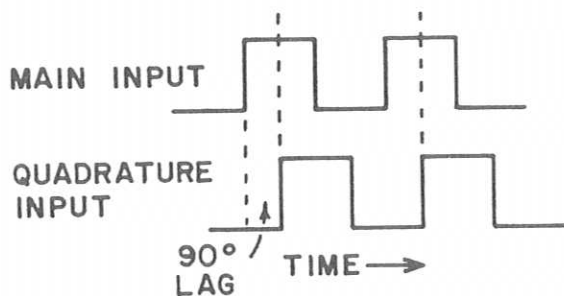
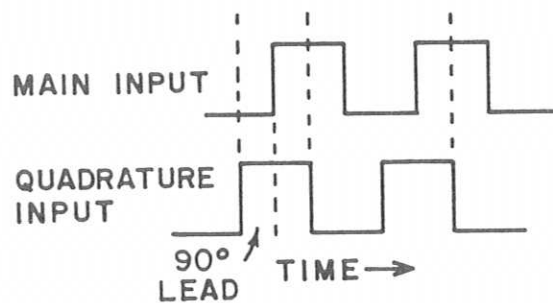

FIGURE 3
FIGURE 4
6. **Quadrature Detector** — To understand the action of the Quadrature Detector, look at the waveform in Figures 3 and 4.
In Figure 3 the Quadrature Input is shown lagging the Main Input by 90° and in Figure 4 it is shown leading by 90° . Op-amp 41C is a "D" type flip-flop in which the logic level at data terminals 5 and 9 is transferred to output terminals 12 and 13 at every positive transition of clock inputs 11 and 3.
Observe Figure 3. Every time the Main Input makes a positive transition, the Quadrature Input is at logic level zero. This means that the output of the flip-flop will always remain at logic level zero.
Similarly, in Figure 4, representing the opposite direction of rotation, the Main Input positive transitions occur when the Quadrature Input is at logic level 1. Thus the flip-flop output remains at logic level 1 for this direction of rotation.